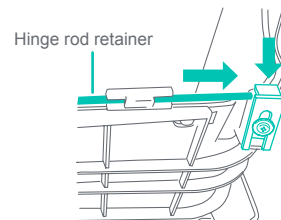

Fig. 1b
• Press the latch down and slide the rod out (Fig. 1b).